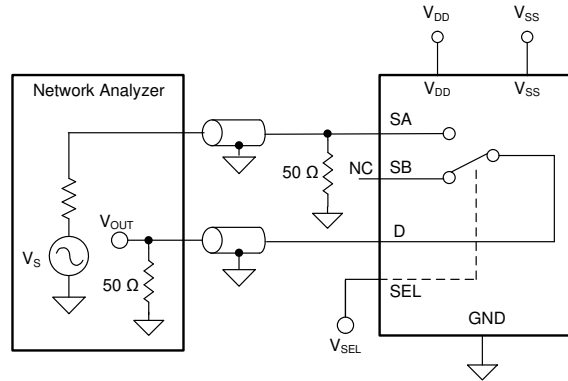

Figure 7-9. Off Isolation Measurement Setup
Off isolation is defined as the voltage at the drain pin (D) of the TMUX6119 when a 1- V_{RMS} signal is applied to the source pin (SA or SB) of an off-channel. Figure 7-9 shows the setup used to measure off isolation. Use to Equation 2 compute off isolation.